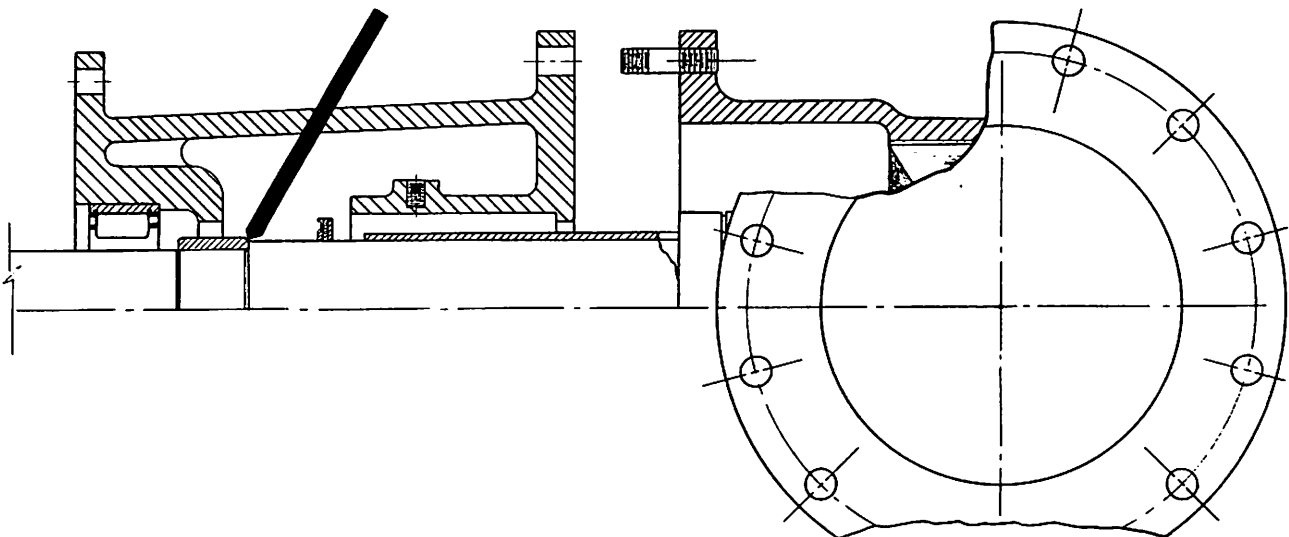

Fig. 7 — Removal of Bearing Inner Race
13. Slide the front bearing bracket toward the end of the shafts so that the inner rings of roller bearings (46) are exposed. Insert a steel drift pin or punch into the open area of the bearing bracket so as to contact the edge of the inner bearing ring, then knock these inner rings from the shafts. (See Fig. 7). Complete removal of the bracket.